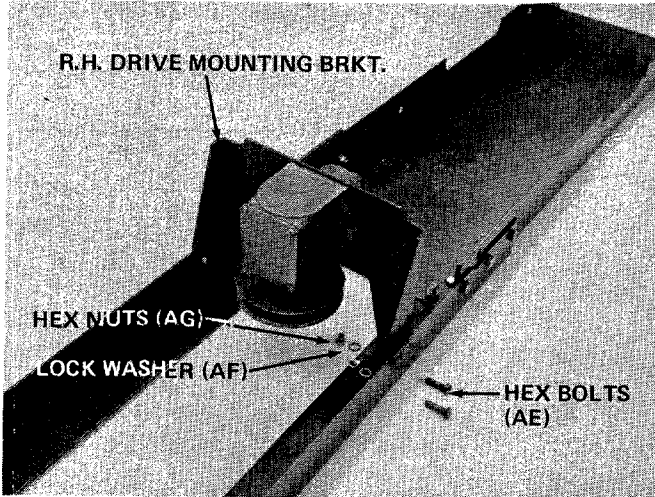

FIGURE 12
- Secure right hand drive mounting bracket to rear support angles with hex bolts (AE), lock washers (AF) and hex nuts (AG). See figure 12. **Tighten securely.**